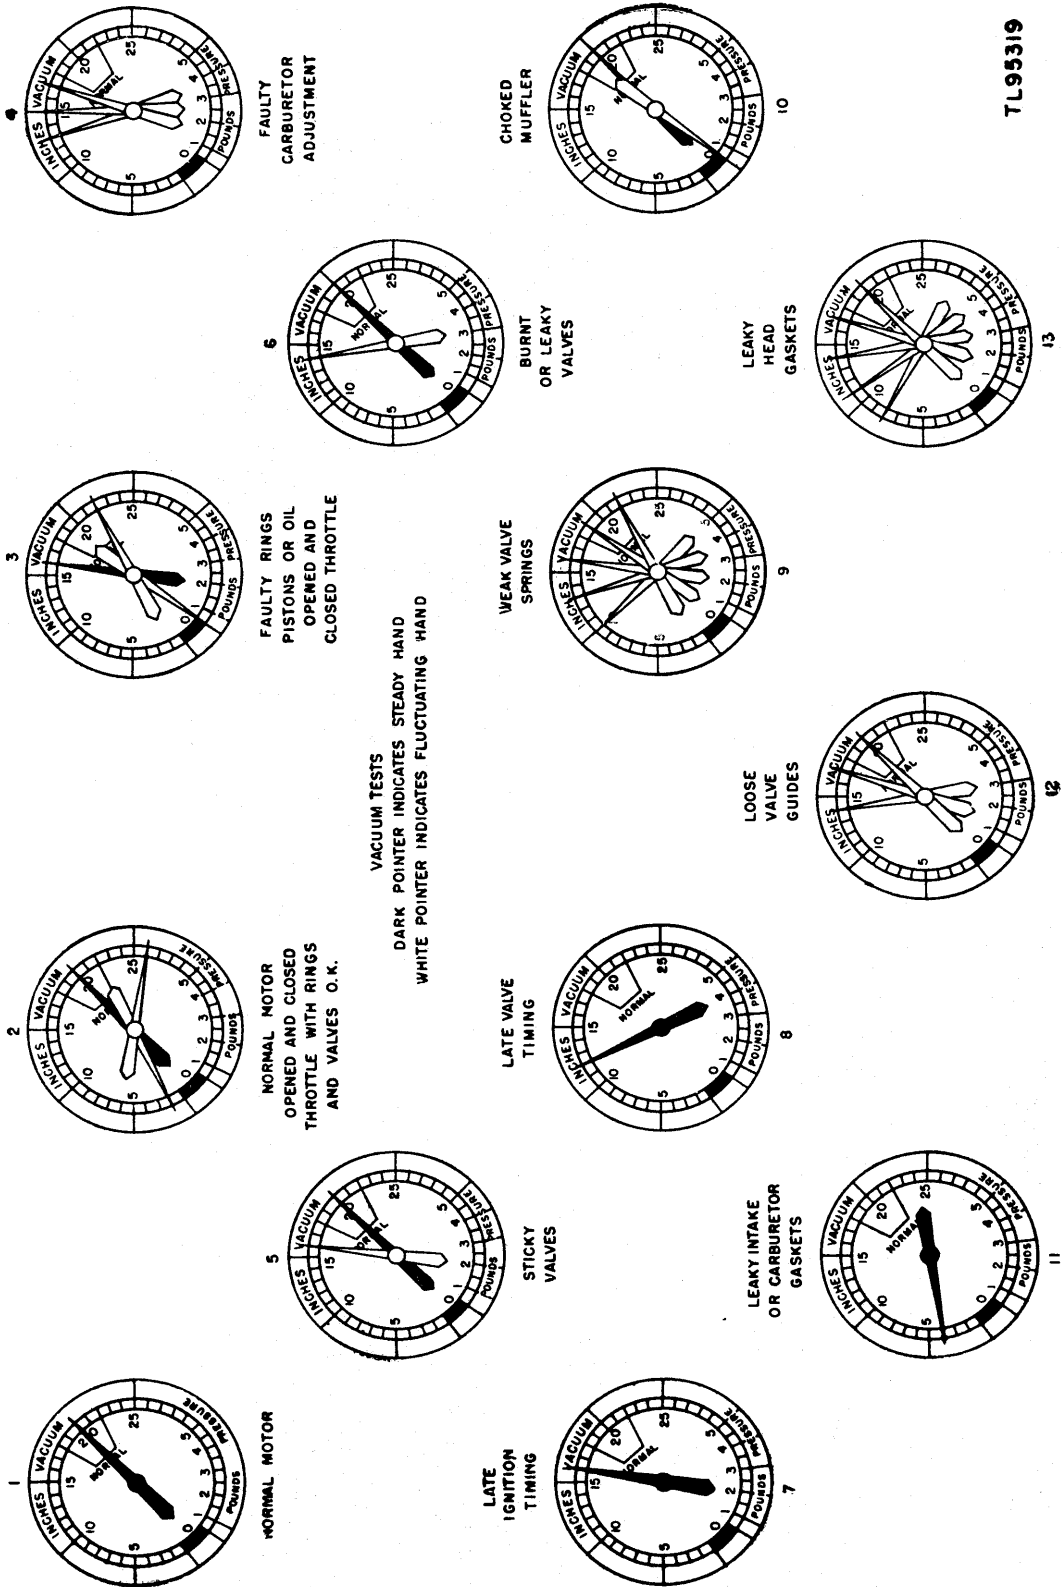

Figure 34. Dial readings for vacuum lift tests.
(1) *Vacuum lift test* (fig. 34). The lift test is made to determine the normal compression of the engine. Connect the tee fitting to the intake manifold and attach the rubber hose. Disconnect the throttle-shaft connector link, and turn the throttle-stop screw to completely close the throttle valve. With the ignition OFF, crank the engine with the starter. Remove the distributor cap to prevent the engine from starting, or, if it is magneto equipped, ground the magneto. As the starter turns the engine, the gauge pointer will rise to where it stands when the engine is idling. If the pointer does not lift over 5 inches, the intake manifold or gaskets are faulty. If the pointer rises to a point between 10 and 15 inches and fluctuates